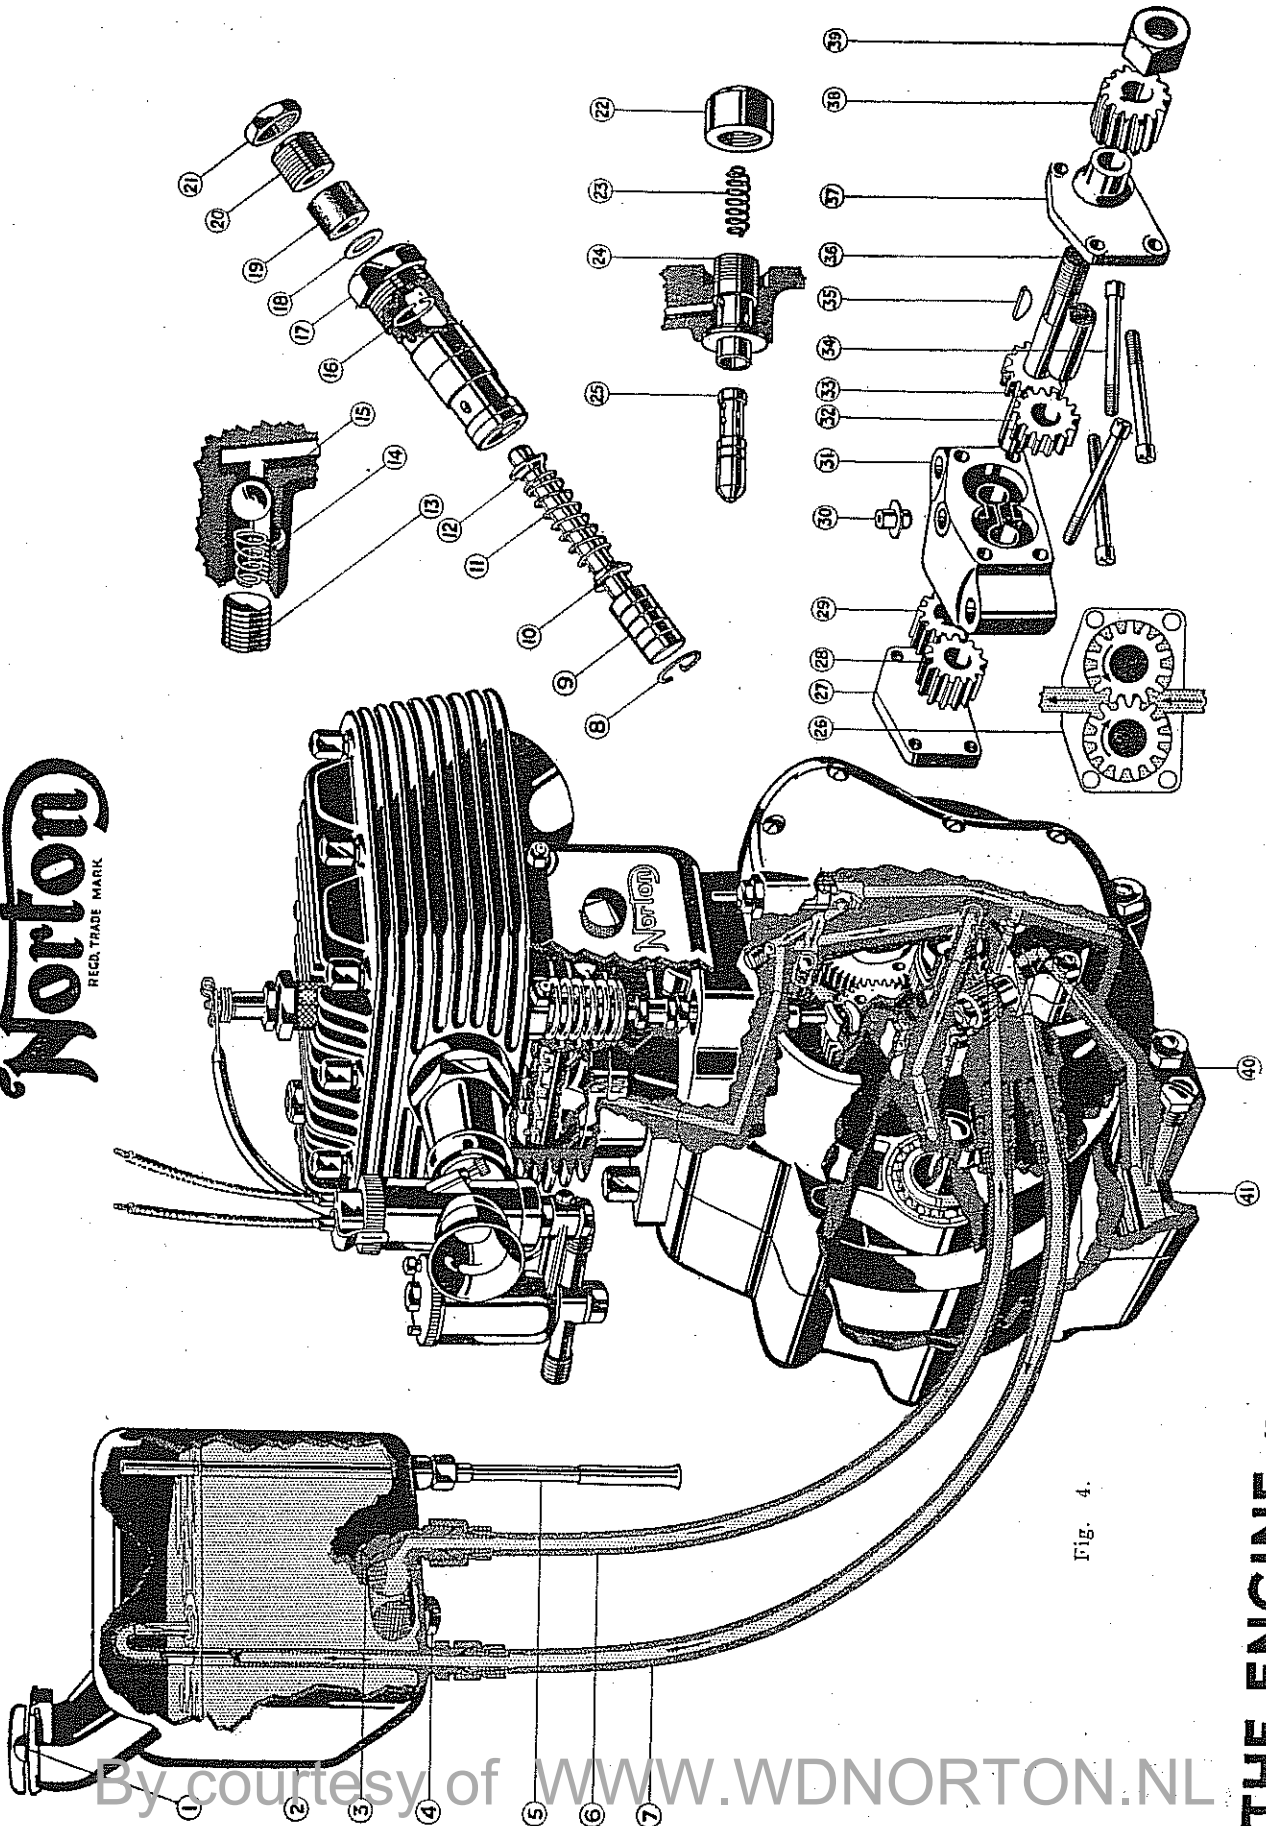

Fig. 4.
1. ENGINE. LUBRICATION SYSTEM. (Fig. 4.)